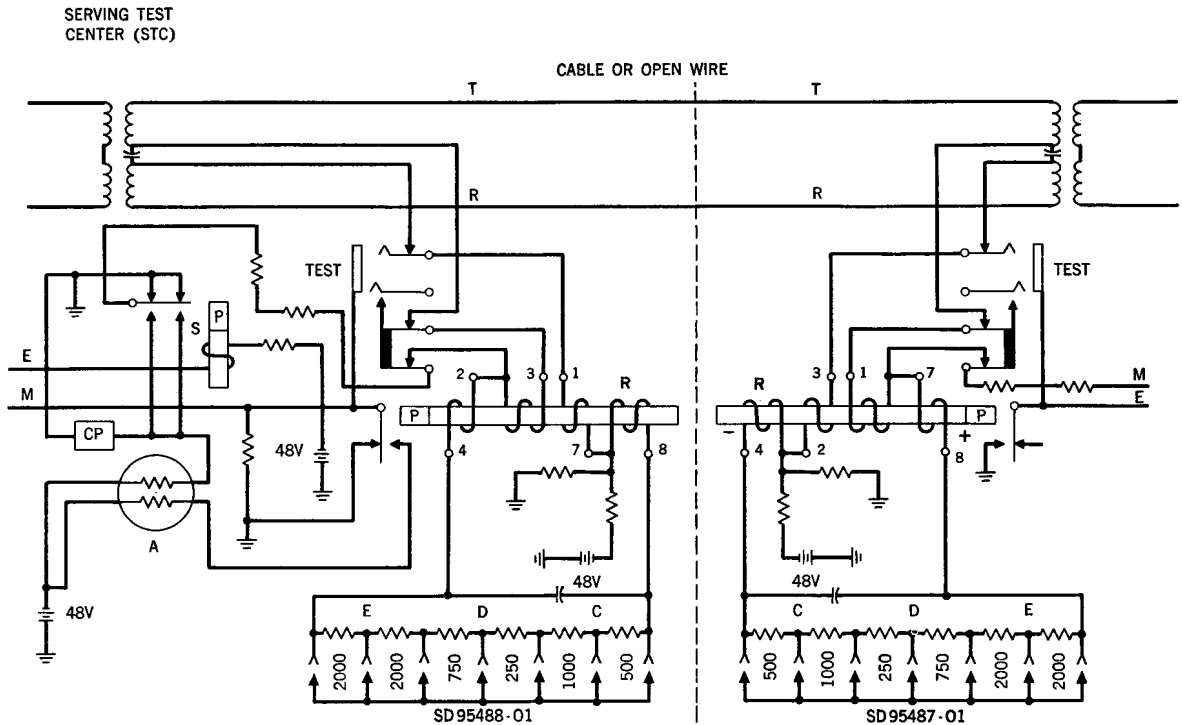

Fig. 1 – Strapping of Resistors in DX Signaling Circuit
**(A) DX Signaling**
**3.02** DX Signaling is used on the customer's receiving pair when the Keyer is located at the central office and the Decoder is located at the station. The DX Signaling Circuit, SD-95487-01, is used at the station in conjunction with the Signal Lead Extension Circuit SD-95488-01 at the central office. The C, D, and E Resistors of the DX and Signal Lead Extension circuits should be strapped in accordance with the procedure outlined in Chart I. The arrangement for strapping the resistors is shown in Fig. 1. Before this test is performed, the operation of the R relays should be checked for proper per cent make and break in accordance with standard procedures using the 2B Signaling Test Set.